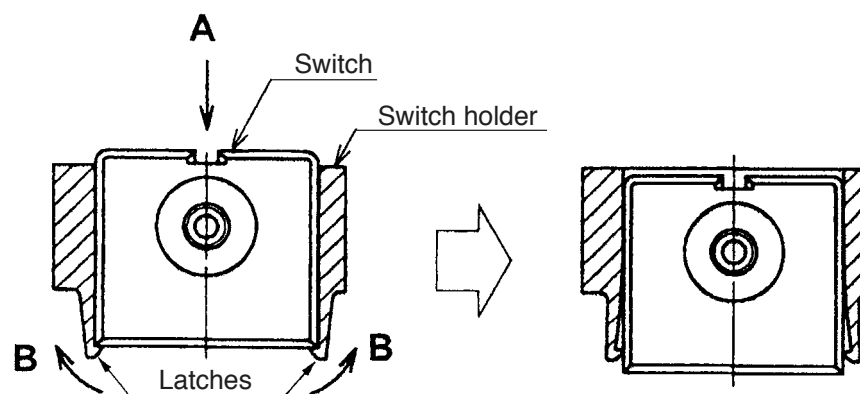

Fig. 8
3. Pressing the Pushing Button Switch [39] <45> in the arrow "A" direction, press the latches of the Switch Holder [45] <51> in the arrow "B" direction with a small flat-blade screwdriver to remove the Pushing Button Switch [39] <45> from the Switch Holder [45] <51>. (See Fig. 8.)